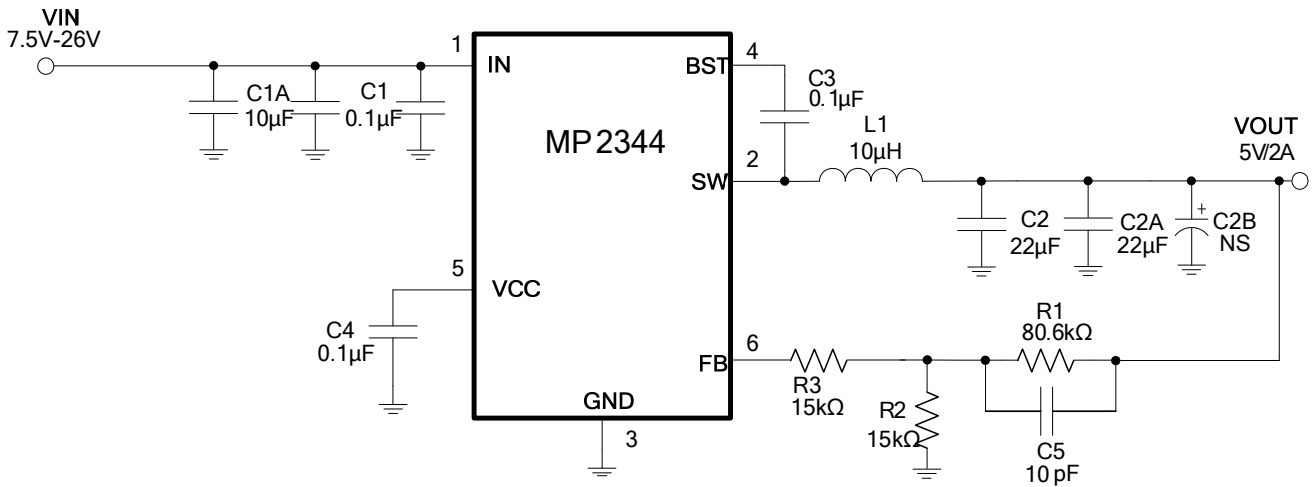

Figure 7: 5V/2A Output
- 9) The recommended layout is based on Typical Application Circuits (see Figure 7 and Figure 8).
Figure 7 and Figure 8 show the detailed application schematics. The typical performance and circuit waveforms are shown in the Typical Performance Characteristics section on page 5. For more device applications, see the related evaluation board datasheets.